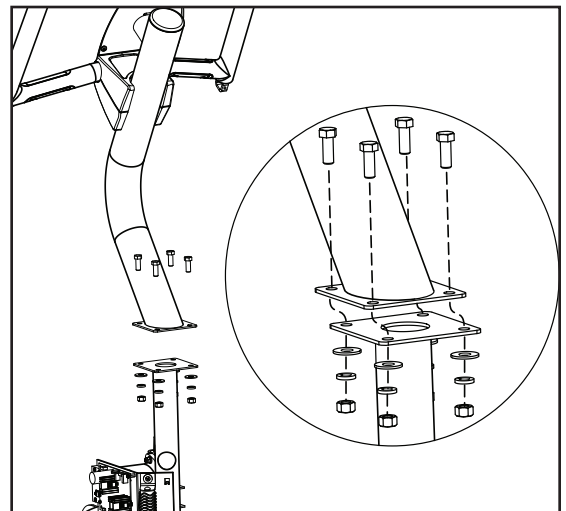

Figure 13
- 8-1 Secure the upper mast weldment to the lower main body utilizing the 4 supplied bolts, nuts, lock washers, and flat washers using a 9/16" or 14mm wrench or socket (see Figure 13 and 14).